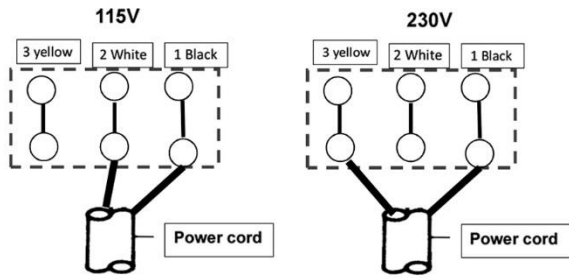

Figure 7-3: coolant pump wiring
- 2) Remove pump motor junction box cover, and change incoming leads for coolant pump, based on diagram shown in Figure 7-3. Reinstall cover.